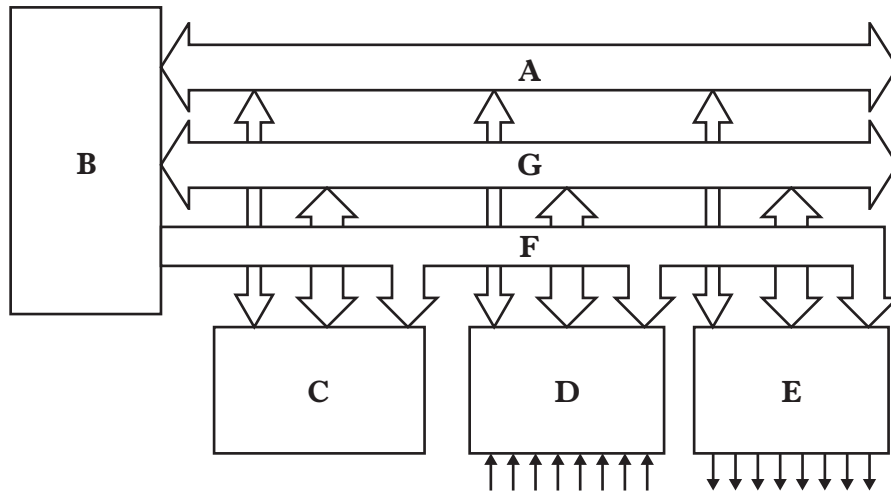

Figure Q1
1. Figure Q1 illustrates the basic architecture of a microcontroller. All parts have been identified with the letters A, B, C, D, E, F and G.
- (a) Match each of the unit names to the letters in Figure Q1.
- (b) Match each of the busses to the letters in Figure Q1.
- (c) With reference to Figure Q1, state which **one** of the following three statements correctly describes the nature of the data flow on the **control bus** in a microcontroller.